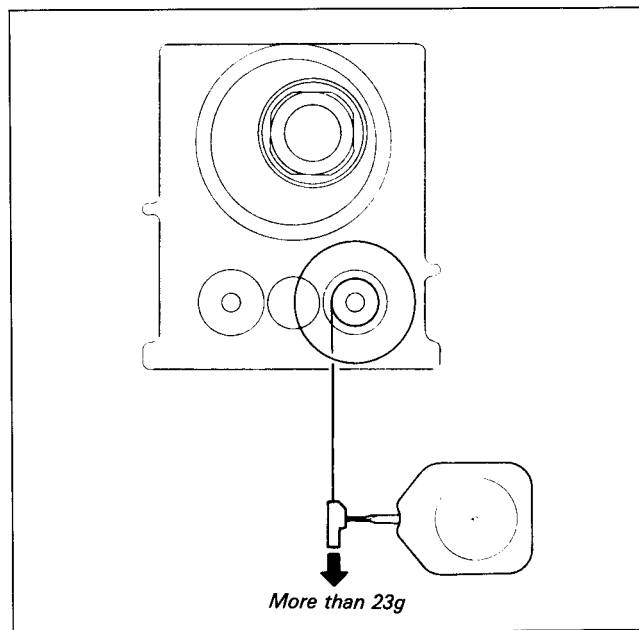

Fig. 7-57.
2. T Main Brake Torque (See Fig. 7-57, 7-58.)